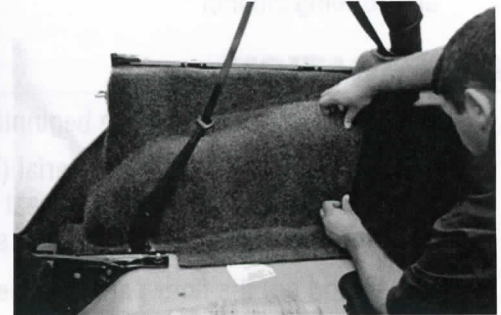

FIGURE 4:
8. Material should be tucked behind plastic cladding equipped on 2011– current Jeep JK models. (Fig. 4)